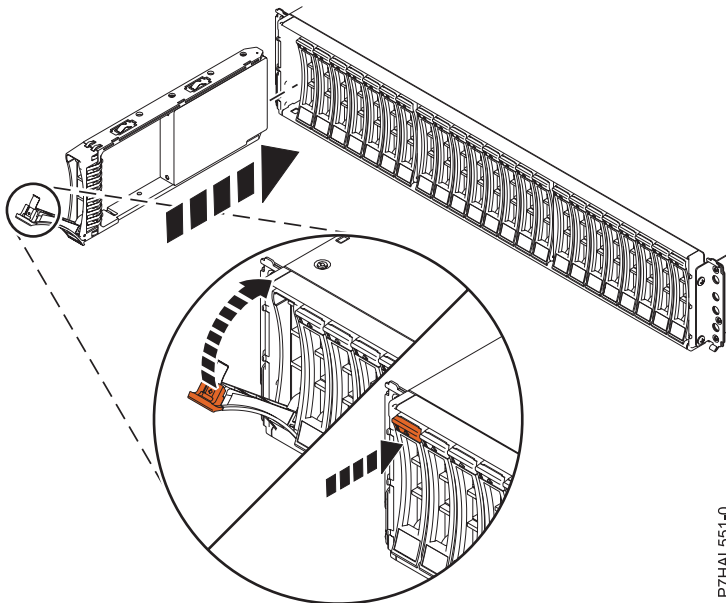

Figure 7. Installing the disk drive in the 58/87 disk drive enclosure
1. With the handle in the unlocked position, see Figure 7 on page 12, support the bottom of the drive as you align it with the guide rails in the expansion unit.